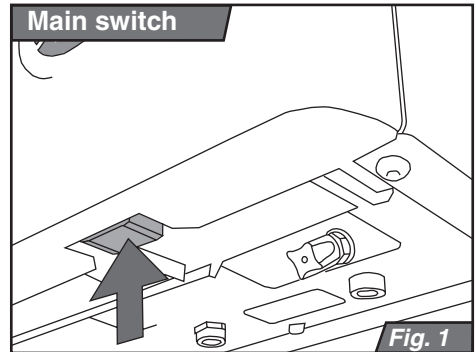

Fig. 1
The main switch (Fig. 1) is used to switch the boiler on or off. The main switch is situated on the bottom side of the boiler in line with the control panel.
Turn the main switch (Fig. 1) to position (I). The display will light up.
Turn the main switch (Fig. 1) to position (0).